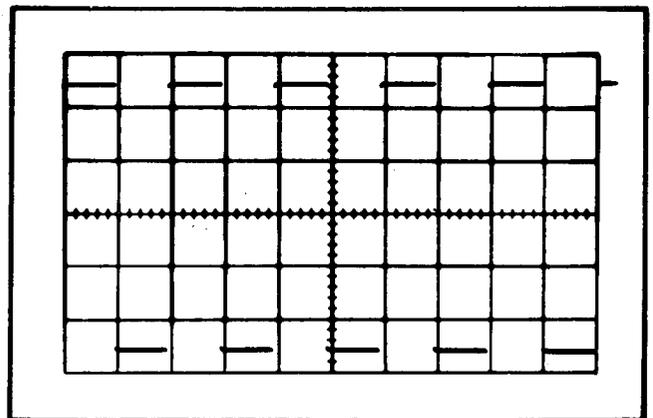

Fig. 5-2. Typical CRT display showing correct vertical gain.
d. CHECK-CRT display for five divisions of deflection (see Fig. 5-2).